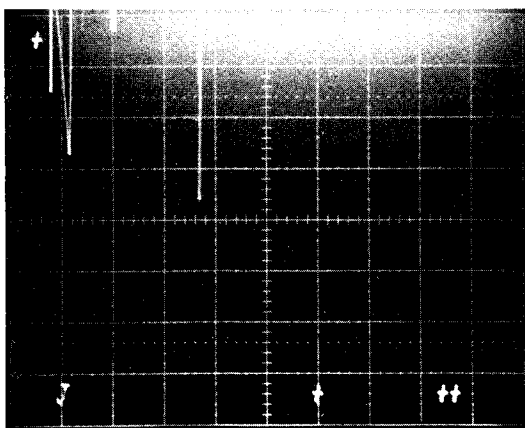

Fig. 2-8. DPO display showing memory bit dropping during Worst Case Test (Strobe Delay R34 misadjusted).
f. Adjust Strobe Delay R34 (Fig. F-4) slowly ccw until data bit dropping begins. This will be evident as spikes extending down into the DPO CRT display area or random characters in the readout. Set FOCUS, INTENSITY, and READOUT if necessary. See Fig. 2-8. If no data bits are dropped, continue rotating R34 ccw until you reach the end of its range.